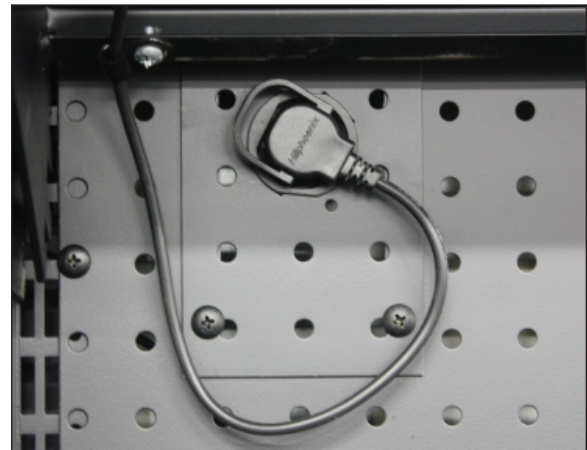

Fig. 14 LED light power cord
1. Unplug the luminaire (Fig. 14).